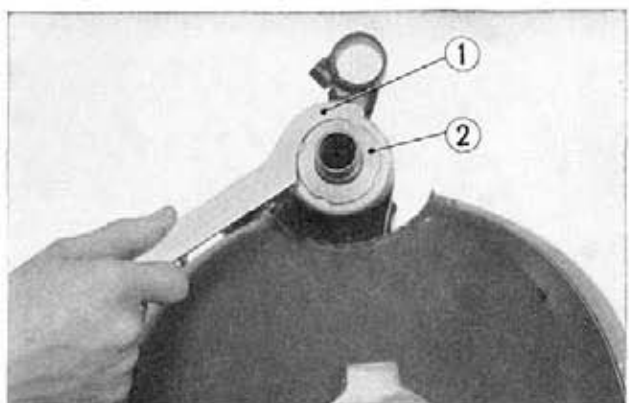

Fig. 11-5 ① Steering stem thread wrench
8. Remove the steering stem thread. Work can be facilitated by using the special wrench (Tool No. 07902-2000000). (Fig. 11-5)